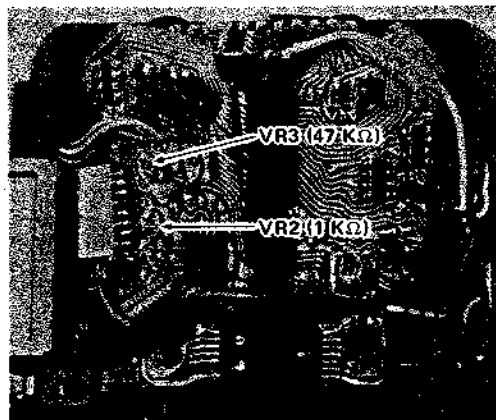

Fig. VI-3
Adjust the potentiometer VR2 so that the reading becomes shutter speed 1/1000 sec. See Fig. VI-3.
b. LV 6 setting, adjust the potentiometer VR3 so that becomes shutter speed 1/2 sec. See Fig. VI-3.